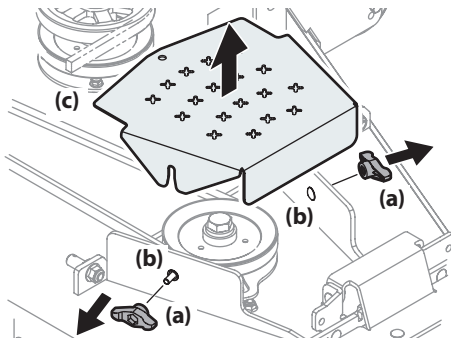

Figure 36
3. Remove the wing knobs (a) from the carriage screws (b) securing the belt covers (c) to the deck. Remove the deck covers. See Figure 36.
7. Using the wing knobs (a) and carriage screws (b), secure the belt covers (c) to the deck. See Figure 36.
9. Remove the wing knobs (a) from the carriage screws (b) securing the belt covers (c) to the deck. Remove the deck covers. See Figure 36.